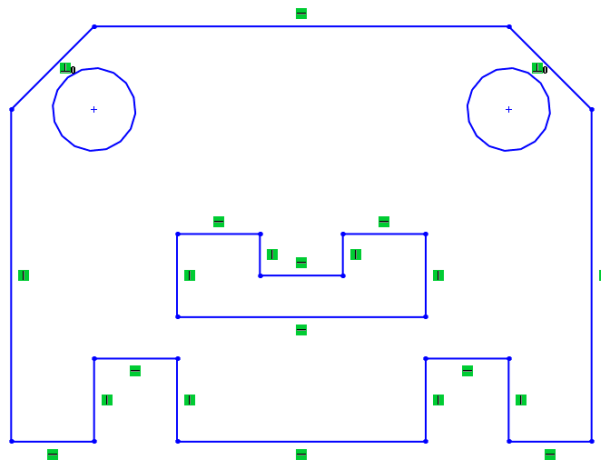

Figure 2-73 Final sketch for Tutorial 4
13. Choose the **Zoom to Fit** button from the **View (Heads-Up)** toolbar to fit the display of the sketch into the screen. The final sketch for Tutorial 4 is shown in Figure 2-73.